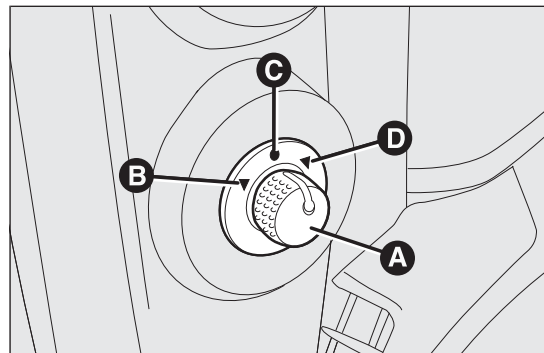

fig. 29
- ☐ select the required mirror with switch A fig. 29 (right or left);